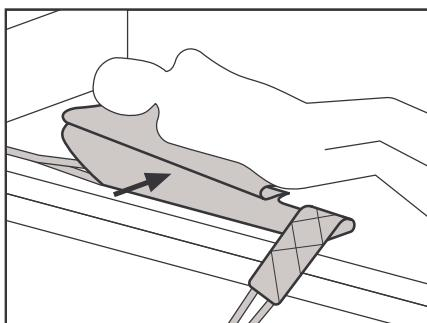

Figure 4
- ⓘ Alternatively, if the client does not have sufficient trunk control, roll the sling to mid-way point and roll the client to one side to position the rolled up sling under the lifted side. Ensure the center of the sling (green mark) is placed centrally along the spine. Roll the client to the other side, unroll the sling and roll the client back into position on the sling. **Figure 4.**